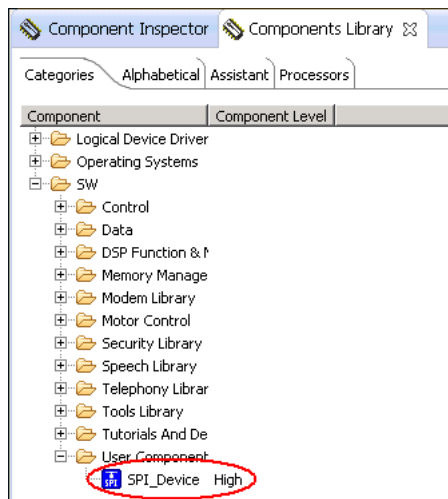

Figure 8. Example Project Folder Component Imported Window
2. If import is successful, then SPI_Device component is in 'Components Library ->SW ->User Component' (see Figure 8).